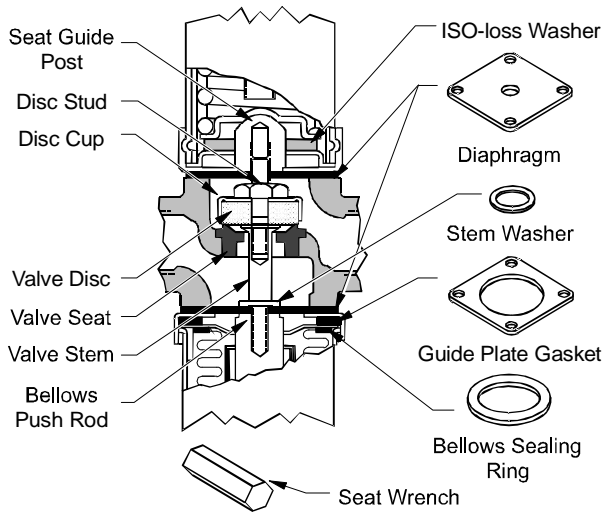

Figure 7: Low Flow Valves
- If servicing a low flow valve, place the stem washer and new diaphragms on the sensing element end of the valve stem assembly. Use two diaphragms on 3/8 in., 1/2 in., and 3/4 in. valves and three diaphragms on 1 in. and larger valves. Screw the diaphragm into place with the bellows push rod. Attach the sensing element to the valve body. See Figure 7.
- Place two new diaphragms on the spring housing side of the valve body. Screw into place with the seat guide post (Figure 7).